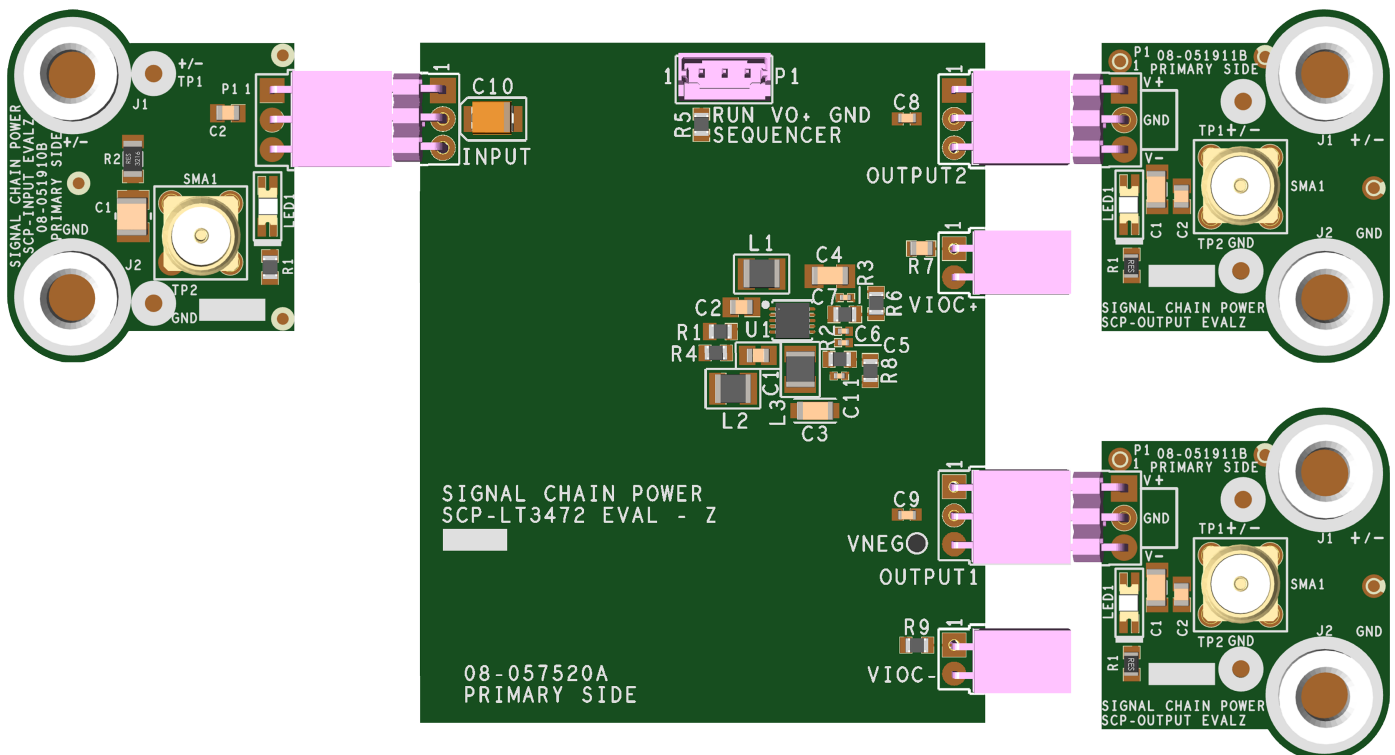

Figure 2. Proper Measurement Equipment Setup (Use SMA connectors for Measuring Input or Output Ripple)
2. Connect the SCP-INPUT-EVALZ and SCP-OUTPUT-EVALZ boards to the SCP-LT3472-EVALZ (refer to Figure 2) and connect the input board to a voltage source, V_{SOURCE} . Connect the output board to a voltmeter or dynamic load. Slowly raise the input voltage until the SCP-LT3472-EVALZ powers up into regulation and sweep V_{SOURCE} through the desired range of operation.